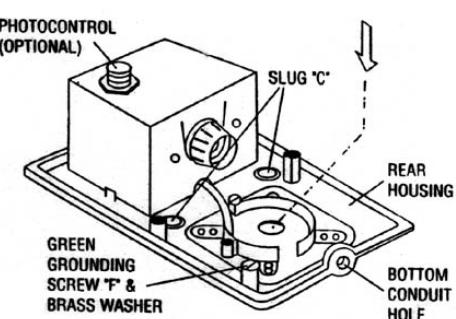

FIG. 3
3. MOUNTING WITH TWO (2) BOLTS (Fig. 3)